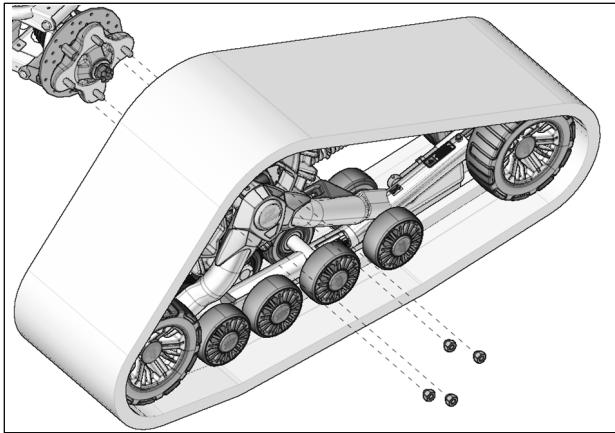

Fig. 11
10. Secure undercarriage to rear hub using the vehicle's wheel nuts. See Fig. 11
7. Using the vehicle's wheel nuts, secure undercarriages to front wheel hubs. The procedure and precautions are the same as for rear units. Refer to Fig. 11